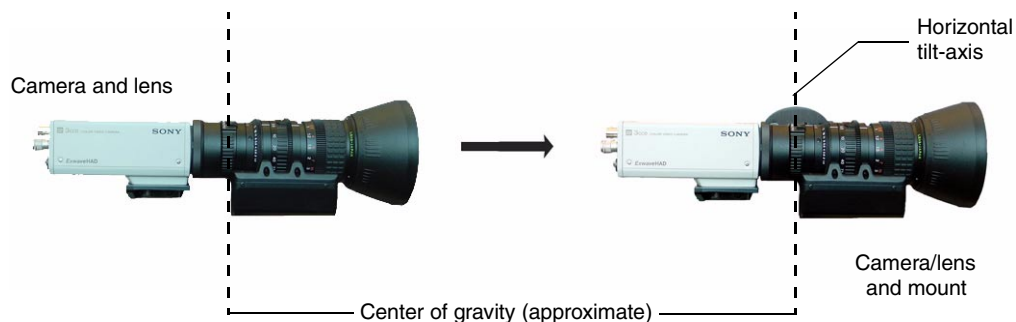

FIG. 8 Mounting a camera
6. Place the camera/mount in the appropriate location along the cradle support bracket so the camera's center of gravity aligns with the horizontal tilt-axis, as shown in FIG. 8.